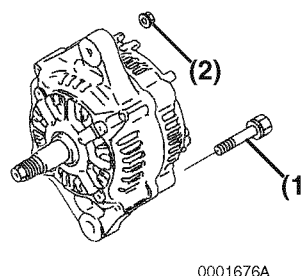

Figure 11-30
5. Align the front frame housing with the rear frame housing. Install the four bolts (**Figure 11-30, (1)**) and four nuts (**Figure 11-30, (2)**).